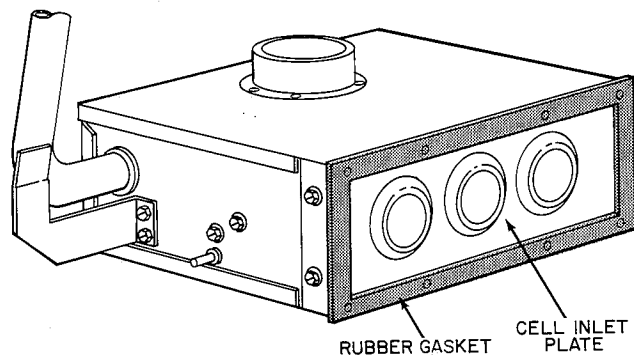

Fig. 8—Burner Enclosure
9. Check condition of gasket on cell inlet panel of burner enclosure. Replace gasket if necessary. (See Fig. 8.)